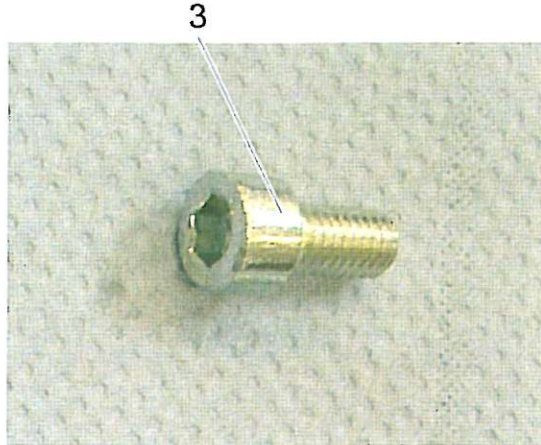

Figure 9
5. Apply Loctite 243 to four screws (item 3). See Figure 9.
9. Apply Loctite 243 to five screws (item 3). See Figure 9.